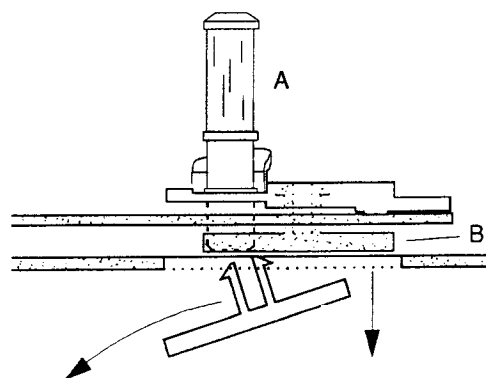

Fig. 10
- Unhinge the loading arm (left) from the holding plate and remove the latter downward from the drive assy through the recess in the chassis (Fig. 10). The reassembly is carried out in reverse order.